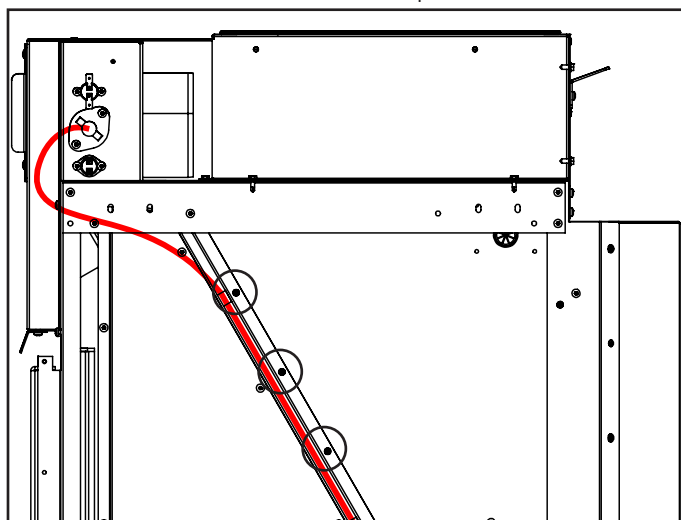

Figure 20: Wiring path
- Check sensor connections are correct. The top sensor should have white wires, middle sensor should have black wires, and the bottom sensor should have grey wires. Route the wires as shown and use the 6" wire ties to secure the harness at the circled screw locations, figure 20. Use other Zip ties to cleanup wiring if needed.